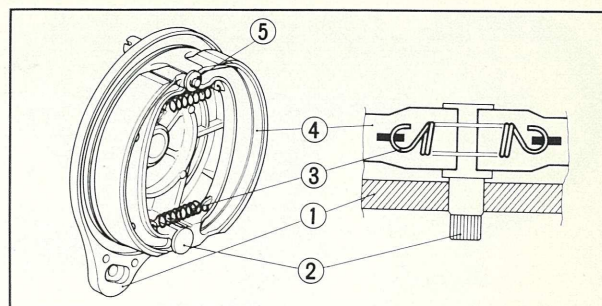

Fig. 2-8 ① Front brake panel ④ Brake shoe
1. Hook brake shoe spring in the direction as in Fig. 2-8.